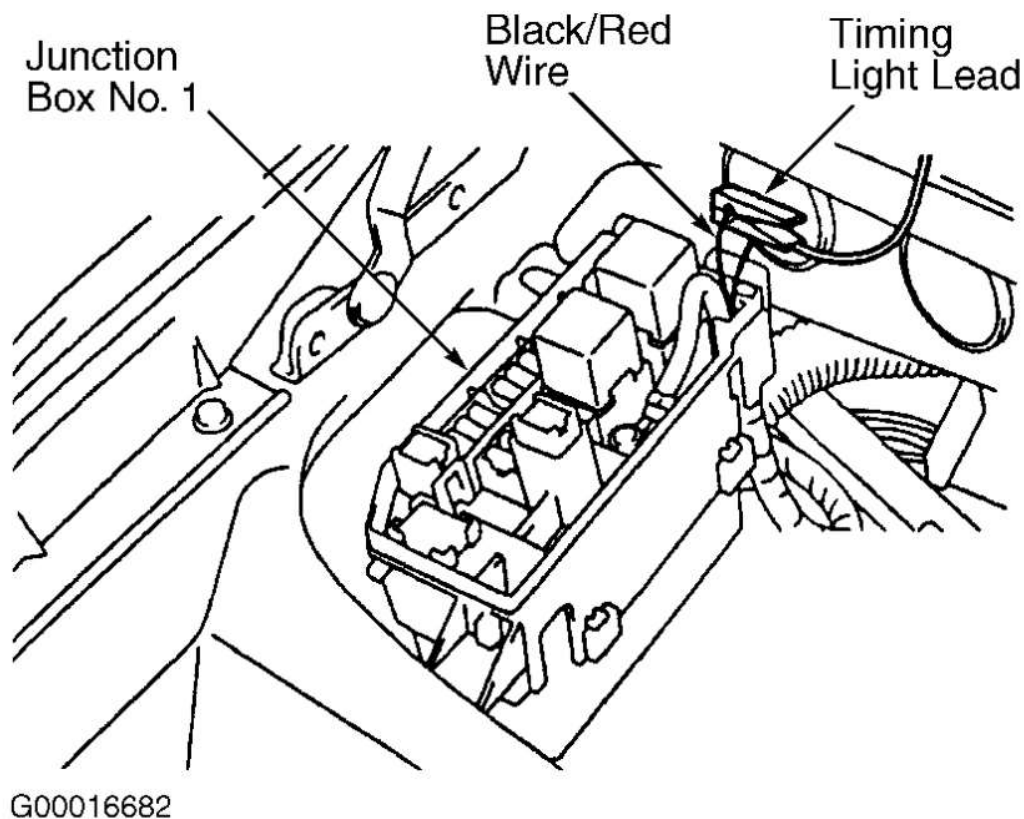

Fig. 38: Connecting Timing Light (MR2)
1. Start engine and warm engine to normal operating temperature. Shut engine off. Remove cover from junction block No. 1 and connect timing light lead to Black/Red wire. See **Fig. 38** . Junction block No. 1 is located at driver's side rear corner of engine compartment, just in front of strut tower.